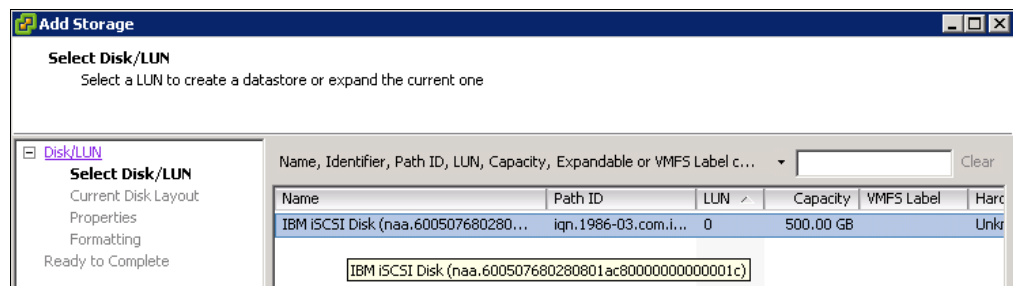

Figure 5-60 Select iSCSI LUN menu
8. The new iSCSI LUN displays. Select it and click **Next** (Figure 5-60).